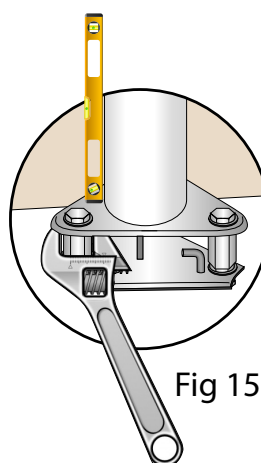

Fig 15,
15. Check the flagstaff is upright with a spirit level. Adjustments can be made by loosening the set screws and adjusting the long nut to bring the flagstaff perpendicular. (See Fig 15) Once satisfied, tighten the three flat nuts back up against the baseplate.